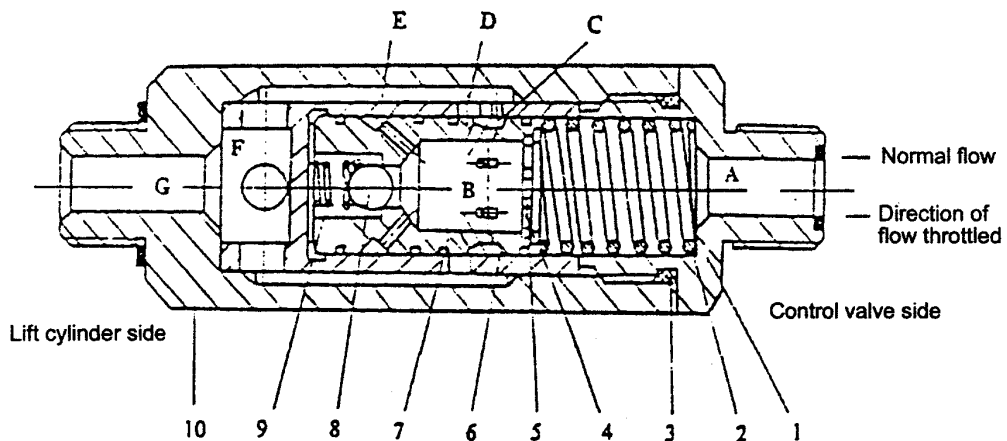

Fig6.7 Flow regulator valve
The flow regulator valve, located in the lift cylinder circuit to limiting the descending speed of loaded forks, has the construction as shown in Fig6.7. When the lift spool valve is placed in the “lift” position, the oil from the control valve flows through the oil chambers A and B, oil holes C, D, E and F, and the chamber G to the lift cylinder without any regulation. When the lift spool valve is placed in the “down” position, the oil flows in the reverse position. When the oil passes the throttle plate(5) and a pressure difference overcomes the force of the spring(2) and moves the valve core (7) right, thus the oil flow being decreased by narrowing of the hole D and C, and reduces the oil flow passing through the throttle plate(5).